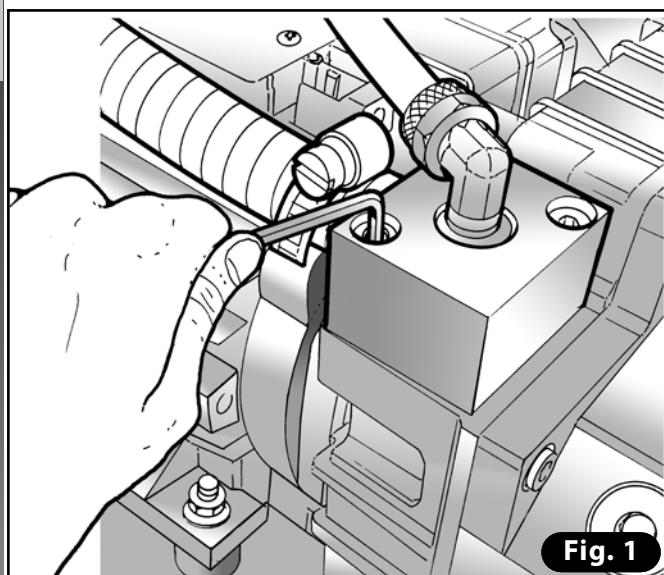

Fig. 1
- 3) Using a setscrew wrench to undo the two screw fasteners on the block. Lift the intake block (**Fig. 1**).
- 6) Put the intake block back in place and fasten the two screws (**Fig. 1**).